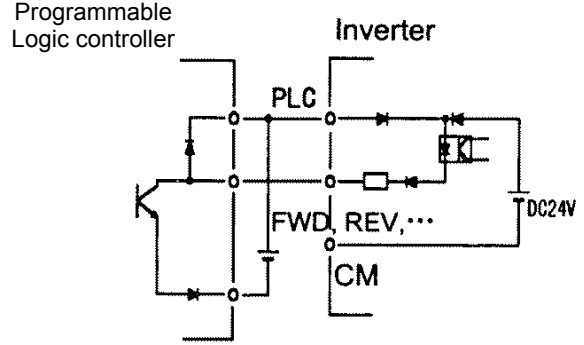

Fig. 2-3-14 Connection for External power supply
③ If an external analog signal output device is connected to these terminals, it may malfunction as a result of inverter noise. To prevent malfunction, connect a ferrite core or capacitor to the external analog signal output device.
(2) Digital input terminals (FWD, REV, X1 to X9 and CM)
- ① Digital input terminals (e.g., FWD, REV, X1 to X9) are generally turned on or off by connecting or disconnecting the line to or from the CM terminal. If Digital input terminals are turned on or off by switching the open collector output of PLC using an external power supply, a resulting bypass circuit may cause the inverter to malfunction. To prevent a malfunction, connect the PLC terminal as shown in Fig. 2-3-14.
- ② When using a contact input, a relay having highly reliable contact must be used.